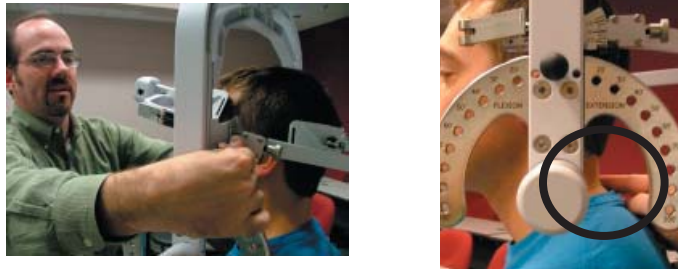

Figure 6-16. Final Adjustments and Locating C5/C6
Step 11. Make fine adjustments to the seat to line up C5/C6 of the patient’s spine with the pivot point of the halo (Figure 6-16).